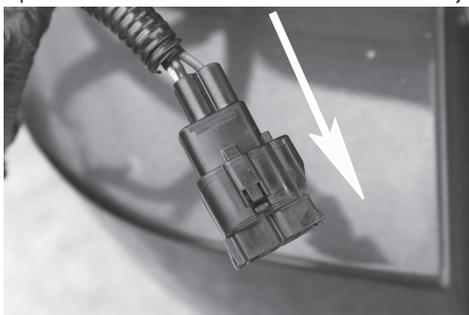

Figure 2
4. Press down on Female 4-Way connector lock and pull in direction shown in **Figure 2** to separate from RV harness. Inspect connector for dirt and debris and clean if necessary.